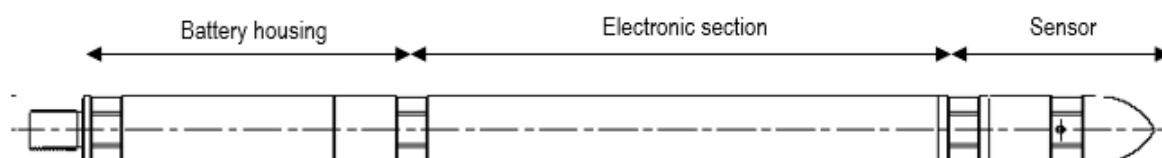

Figure 1. EMR Gauge Main Parts
7. Verify the tools and the components herein as in **Figure 1** are thoroughly cleaned from dirt and grease.